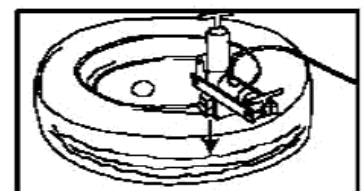

Figure 7
5. Continue to apply hydraulic pressure until the bead breaking ram extends about 1/2 - 3/4 inch [13-19 mm] from the bead breaker. (See Fig. 7.) **NOTE:** Never try to break the tire bead with only one push. Instead, proceed to “Continuing to Break the Tire Bead”. Move the bead breaker 8-12 inches [0,2 -0,3 m] from its current position.